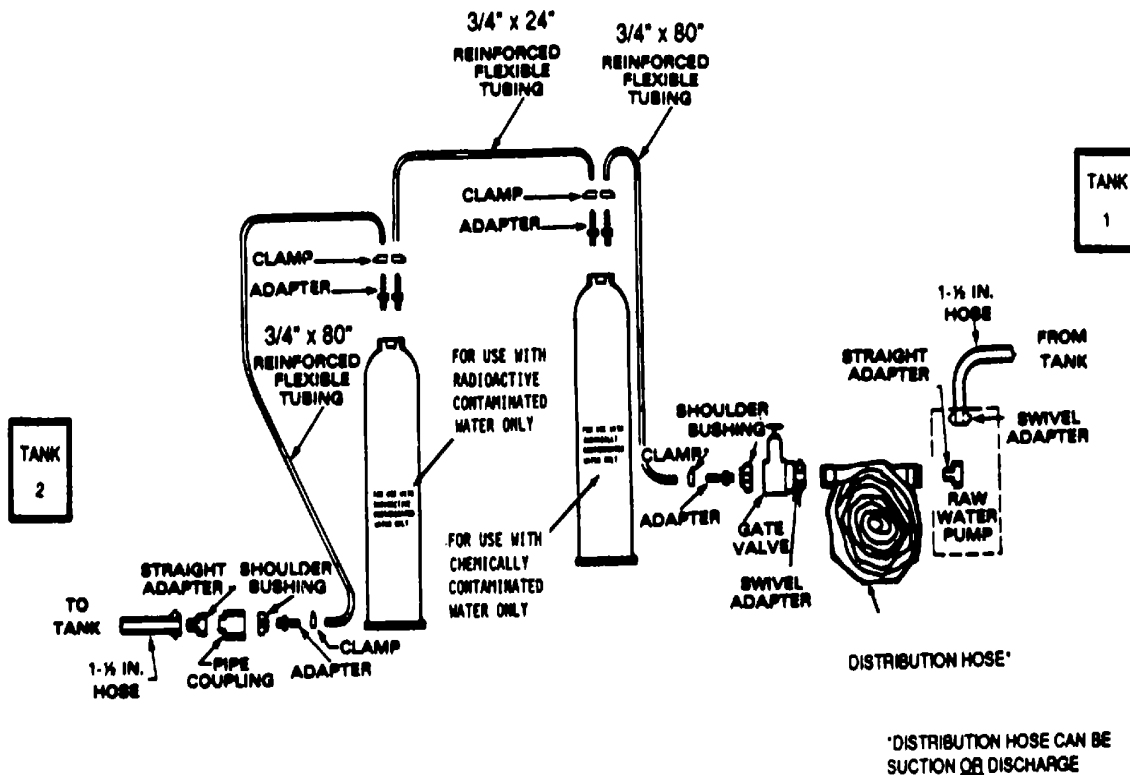

Figure 2-83. Nuclear and Chemical Filter Installation
- d. Use one of the raw water pumps to force the water through the NBC cartridges. Install raw water pump (fig. 2-83).
- (1) Install 1 1/2 in. suction hose from raw water tank and swivel adapter on raw water pump.
- (2) Attach female end of distribution (suction or discharge) hose to straight adapter on raw water pump.
- (3) Attach swivel adapter to gate valve and attach male end of distribution hose to swivel adapter.
- (4) Attach shoulder bushing and adapter to gate valve.
The NBC cartridges should be positioned so that the cartridge marked 'FOR USE WITH CHEMICALLY CONTAMINATED WATER ONLY' is **FIRST** in the series. Position the cartridge marked "FOR USE WITH RADIOACTIVE CONTAMINATED WATER" so that water is filtered through this cartridge **LAST** as shown in fig. 2-83
- e. Assemble the NBC cartridge in series (fig. 2-83).
- (5) Cut one section of 3/4 in. x 80 in. flexible tubing to a maximum length of 24 in.
- (6) Slide clamp over end of tubing.
- (7) Remove plug from OUTLET port on FOR USE WITH CHEMICALLY CONTAMINATED WATER cartridge and insert adapter into cartridge.
- (8) Attach tubing to adapter on OUTLET port and close clamp.
- (9) Remove plug from INLET port on FOR USE WITH RADIOACTIVE CONTAMINATED WATER cartridge and insert adapter into cartridge.
- (10) Slide clamp over end of tubing.
- (11) Attach tubing to adapter on INLET port and close clamp.
- (12) Slide clamp over end of second section of 3/4 in. x 80 in. flexible tubing.
- (13) Remove plug from OUTLET port on FOR USE WITH RADIOACTIVE CONTAMINATED WATER cartridge and insert adapter.
- (14) Attach tubing to adapter on OUTLET port and close clamp.
- f. Complete connection of NBC cartridge to second raw water tank (fig. 2-83).
- (1) Slide clamp over remaining end of 3/4 in. x 80 in. flexible tubing.
- (2) Insert adapter into tubing and close clamp.
- (3) Attach shoulder bushing, pipe coupling, and straight adapter to 1 1/2 in. discharge hose and connect to second raw water tank (fig. 2-83).